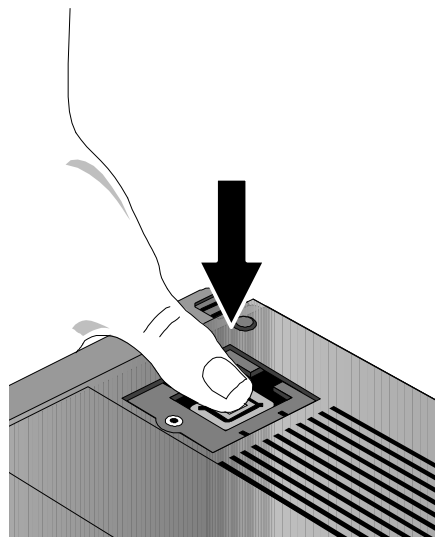

Figure 44 - Replacing the Flash BIOS IC
2. Press down firmly on the IC to ensure a proper connection. See Figure 44.